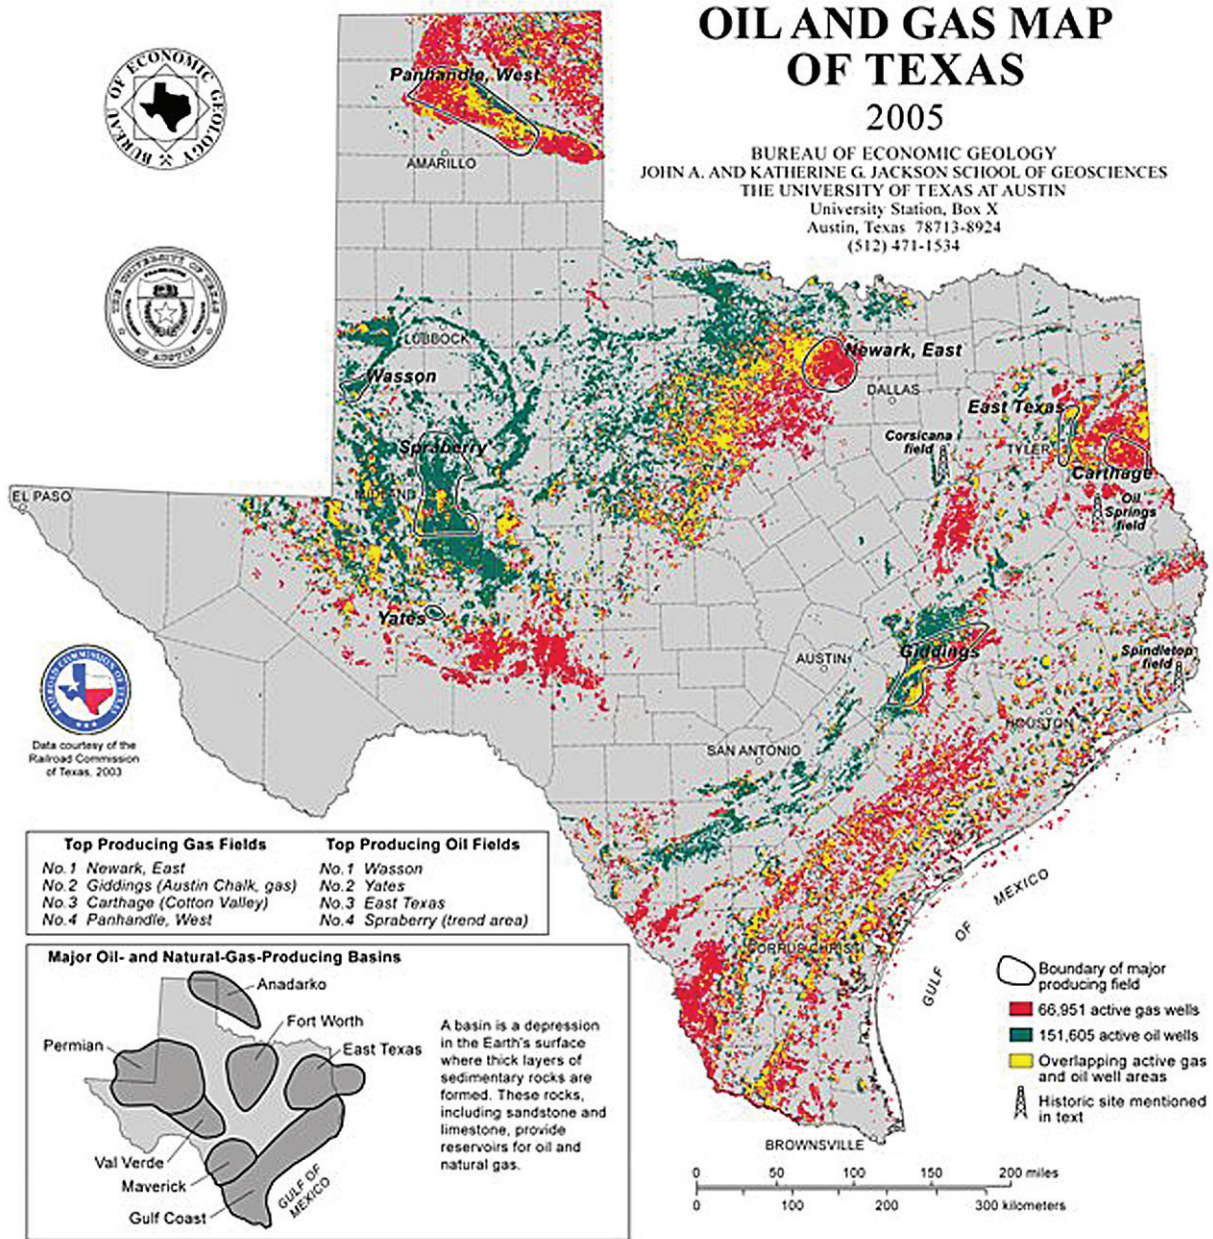

Figure 8. Oil and gas resources of Texas.
12. How many major oil and natural gas basins are there in Texas. Look in the small inset on Figure 8.